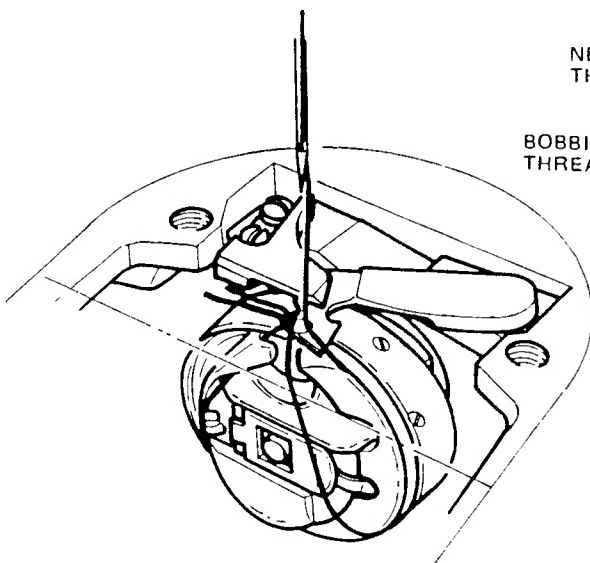
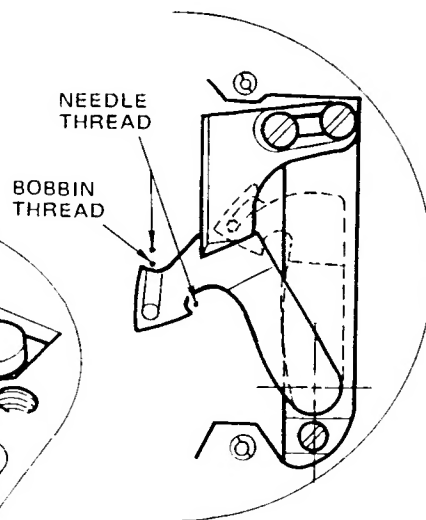
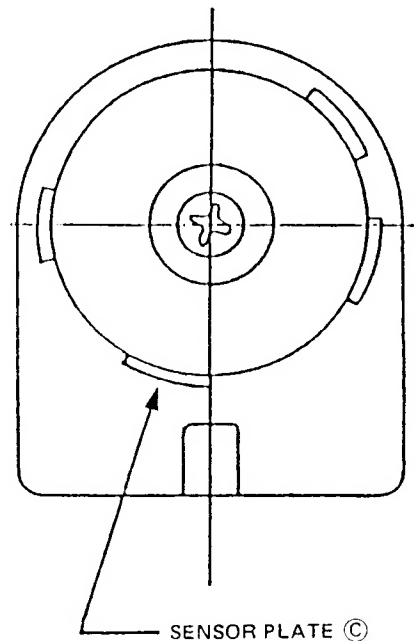

Fig. 59
Fig. 60
Fig. 61
4. When the cam follower on the thread puller action plate slips into the recessed portion of the thread puller action cam adjusting plate, the thread puller is activated to move through the loop (Fig. 59) to a point shown in solid line in Fig. 60, and the needle and bobbin threads are positioned as shown also in Fig. 60. Simultaneously, the thread puller action plate pushes the tension release action plate making its pin ride on the tension release action cam. Immediately when the pin rides on the tension release action cam, the electronic command relayed from the sensor plate ⑥ (Fig. 61) cuts off the current supply to the trimmer solenoid. The above motion makes the tension releasing cam rotate until just before the tension discs are released.